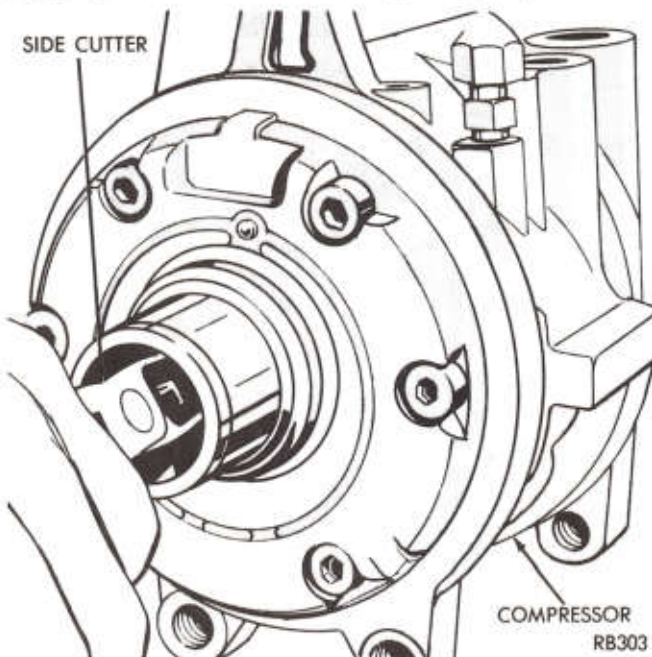

Fig. 1—Crankshaft Key Removal
- (1) Remove key from crankshaft of compressor by gripping with a side cutter and pulling (Fig. 1).